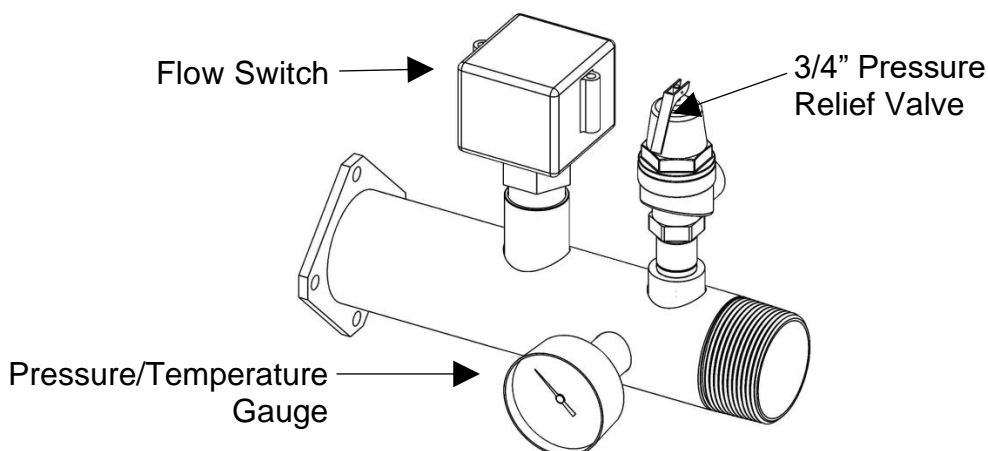

Figure 6: Manifold Assembly and Components for EXT 450 2S, 600 2S, 800 2S & 1100 2S
3. Connect the following components to the tapped holes in the manifold assembly (Fig. 6 & 7):